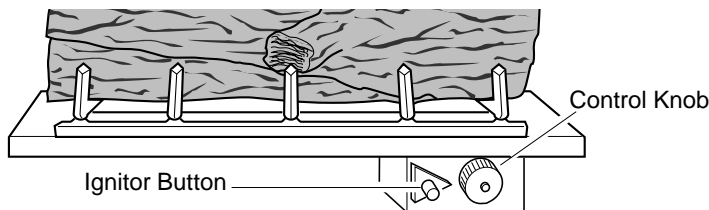

Figure 29 - Control Knob and Ignitor Button Location
4. Wait five (5) minutes to clear out any gas. Then smell for gas, including near the floor. If you smell gas, **STOP!** Follow "B" in the safety information above. If you don't smell gas, go to the next step.
5. Turn control knob counterclockwise  to the PILOT position. Press in control knob for five (5) seconds (see Figure 29, above).